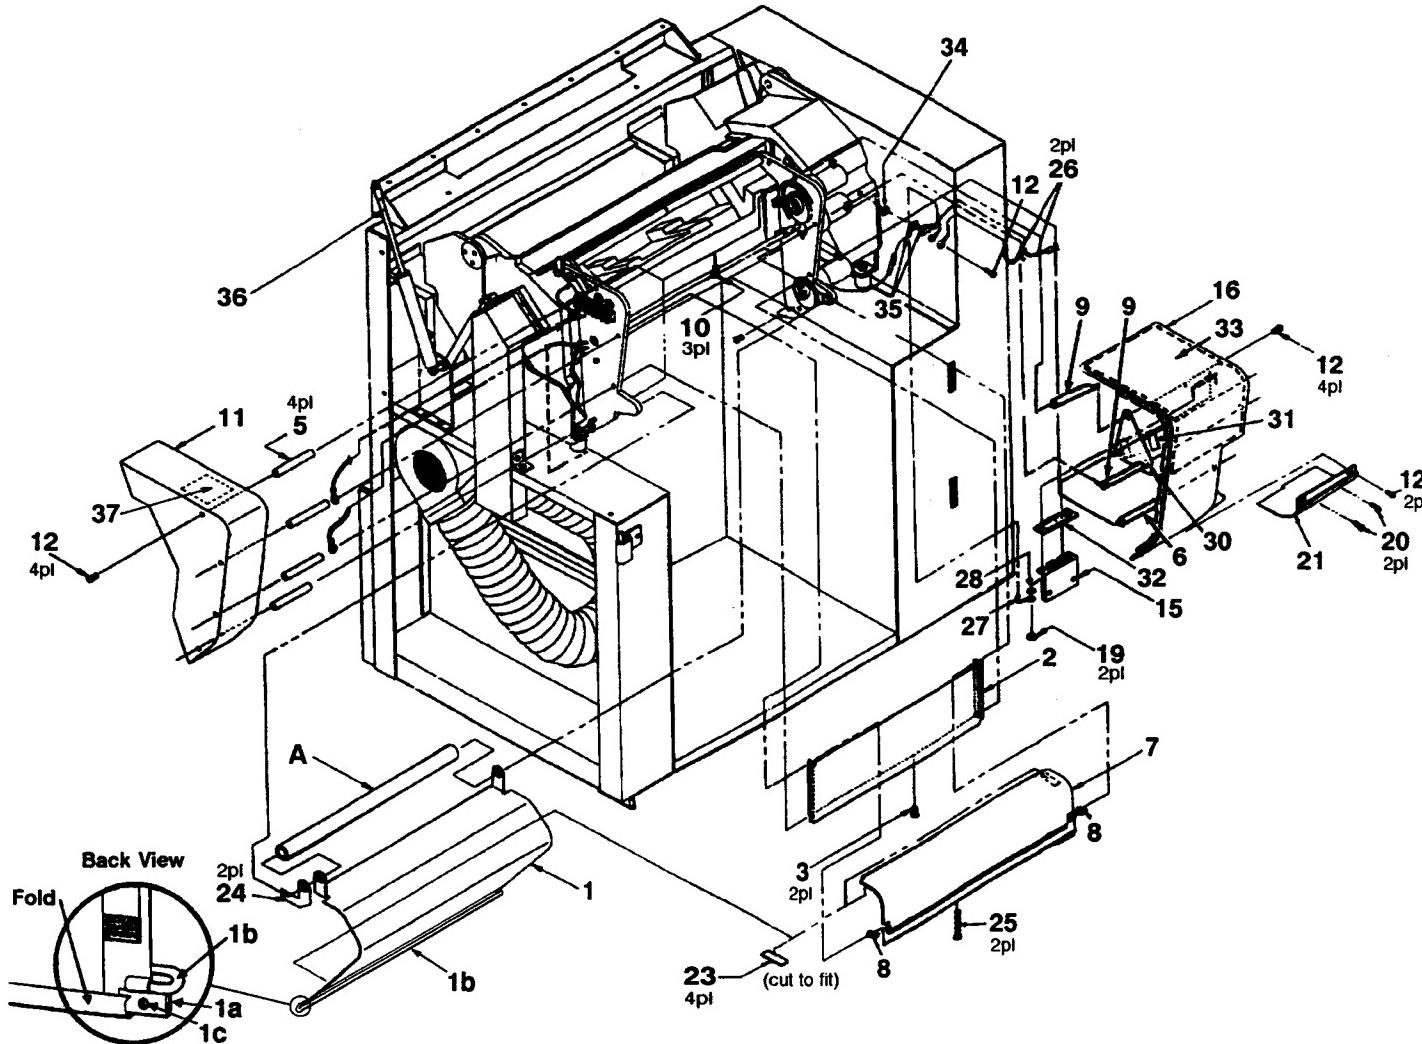

Figure 7-13. Ribbon Drive/Print Mech. Cover
** NOTE: Before installing lower tractor closing bar, you must first measure the lower ribbon door, from the top of the door, around the bends, to the bottom edge of the door. If the measurement is 12 inches, install the closing door. If the door measures 12 and 7/8 inches, you must first order a new door (02566-00256) before installing the closing bar. If the ribbon door retaining clips have not been installed, you must install them as well. Order: Left Retaining Clip (02566-40046), Right Retaining Clip (02566-40047) and 2 screws (0515-0875). Figure 7-13 shows mounting of the closing bar.